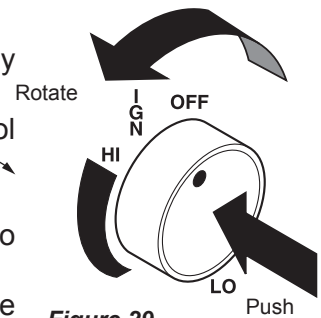

Figure 29 -
6. From OFF position, push in gas control knob slightly and turn counterclockwise to the IGN position. Figure 29. Push in and hold control knob for 5 seconds.